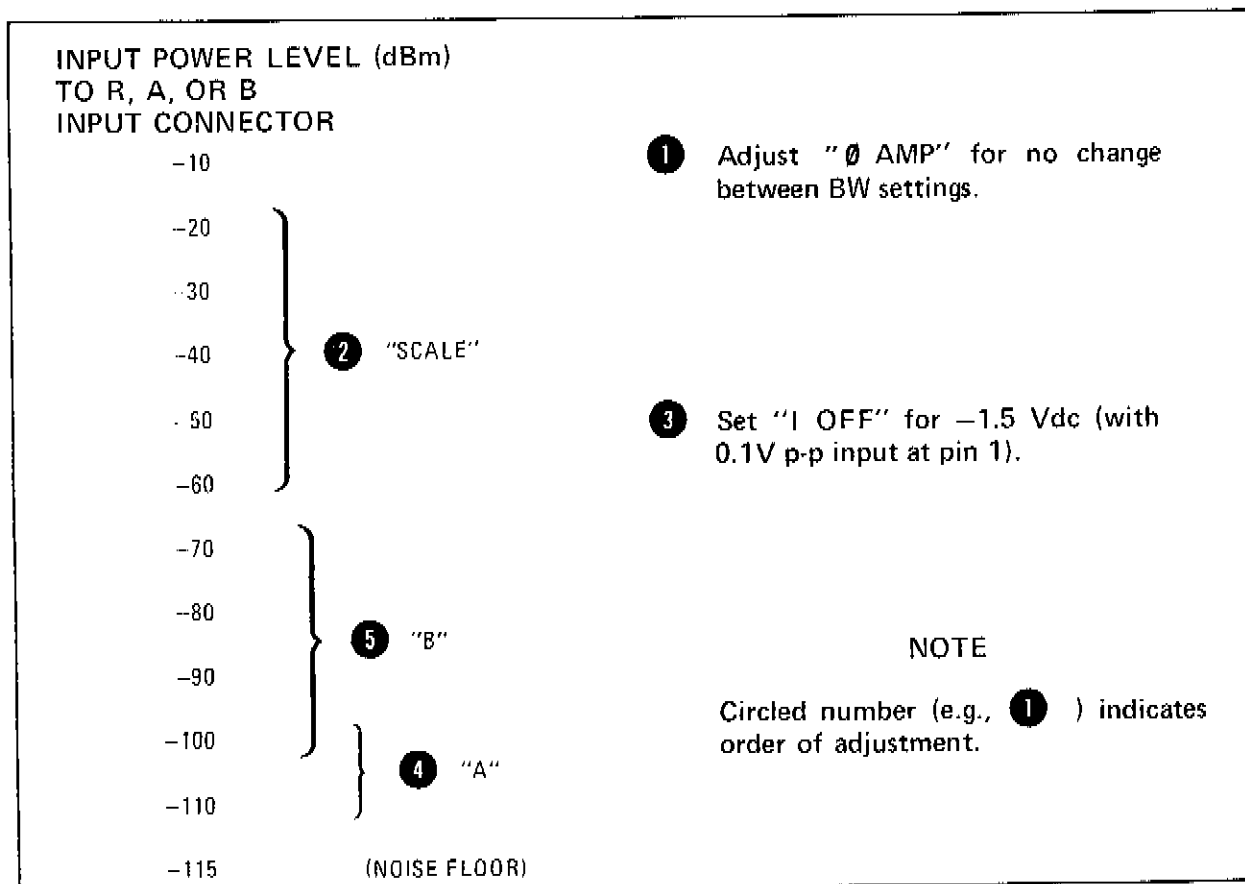

Figure A5-26. Graph of A3A13 and A3A14 Magnitude Detector Adjustments
- l. Step external attenuator from -50 to -90 dB (-60 to -100 dBm signal level at "R" INPUT). As attenuator is stepped 10 dB, add 10 dB of offset with REF OFFSET pushbuttons to bring CRT trace back to Reference line. Adjust "A" control A3A13R71 and "B" control A3A13L4 for accurate 10dB steps on CRT display in the input range of -70 to -110 dBm. See Figure A5-26 for area that each control affects.